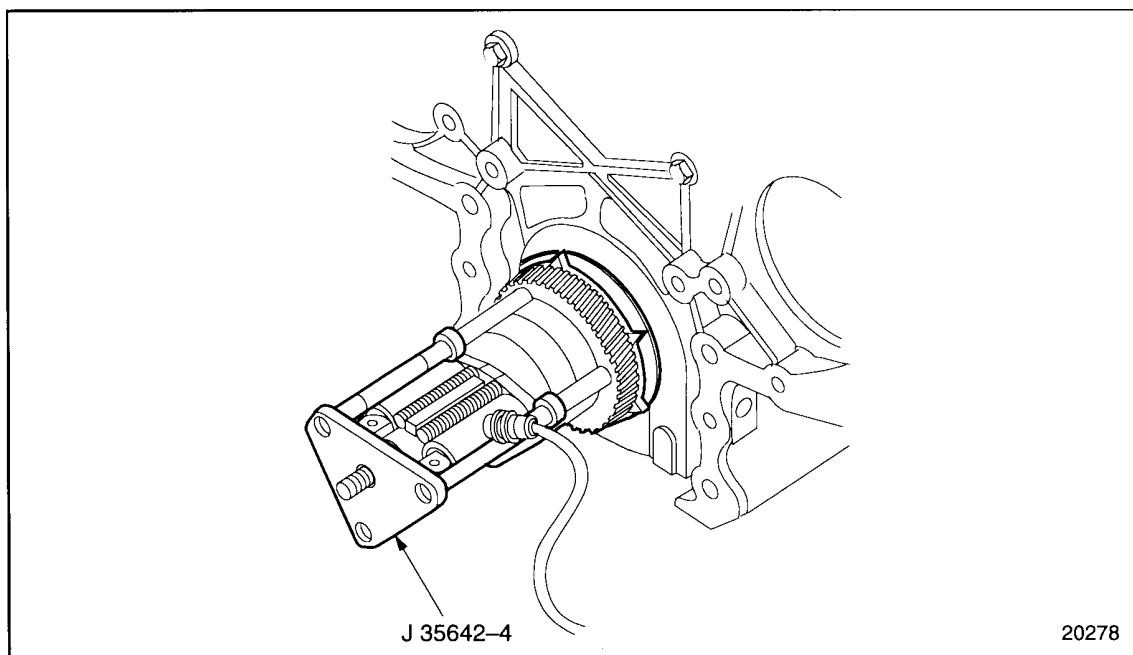

Figure 1-358 Pressure Plate Installation
12. Install the Pressure Plate, J 35642-4 part of J 35642, to the three legs, J 35642-2 part of J 35642, both part of tool kit J 35642. See Figure 1-358.